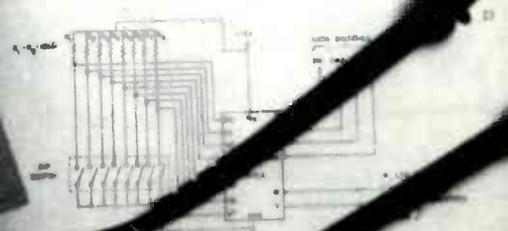

Fig. 16 Circuit for Experiment 7
Figure 16 shows the circuit diagram for this experiment. You should also refer to the CIE data sheet included on the diagram. For those students who refer to the IC data sheet, which shows pinout data, for the data sheet, you'll use an eight-pin DIP switch in conjunction with the IC and a resistor. For the LEDs and strobe lamp, finally, you'll use the appropriate switches.
2. Connect the eight 40 resistors to the DIP switch as shown in Fig. 16. Connect the opposite end of each of these resistors to the IC pins. The second terminal of each switch is to be connected to a common ground.
6. Set the DIP switch 4 (D) to the "up" position. Connect the strobe lamp to the output of the DIP switch 4 (D). The lamp should be connected to the common position. Connect the strobe lamp to the output of the DIP switch 4 (D).